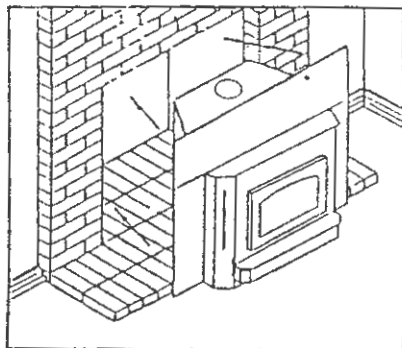

FIGURE 6
9. Slide the unit back into the fireplace. Check to be sure that the trim panels (and brass) are properly positioned and lie flat against the front of the fireplace. If one or more of the panels is out of position, slide the unit out and reset by loosening the mounting screws and repositioning in the slot. (See Figure 6).